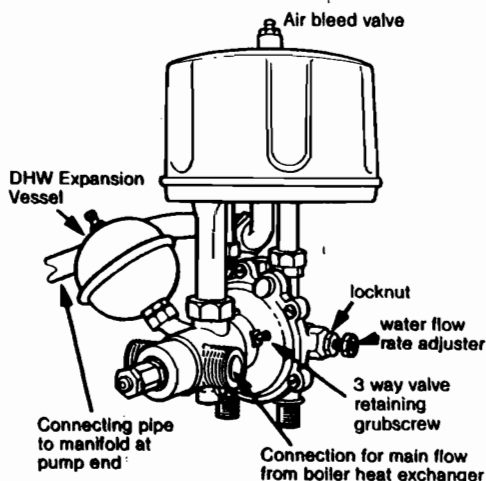

Fig. 36
Refer to figs 36, 37, 38 and 41
- 8.16.8 Disconnect 4 union nuts (fig 36).
Refer to figs. 36 & 37
Refer to fig 36